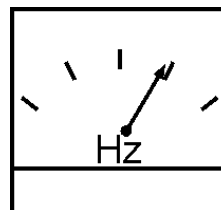

Figure 38. Frequency Meter
3. The generator's frequency meter (Figure 38) should be displaying the 60 cycle output frequency in **HERTZ**.